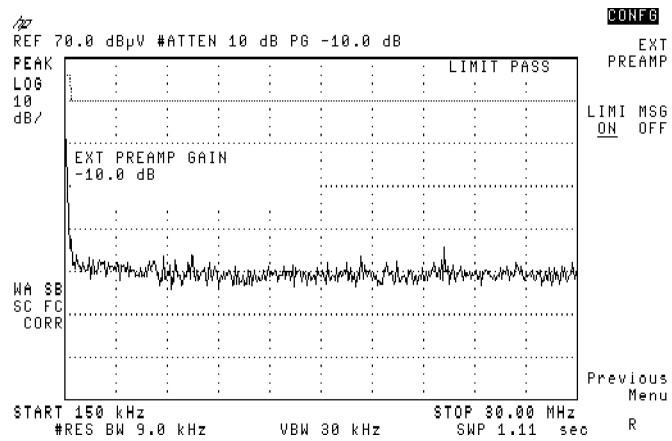

Figure 3-30. External Preamp Gain — 10 dB
16. Press **EXT PREAMP**, **(-)**, **10**, **(dB)**. See Figure 3-30.